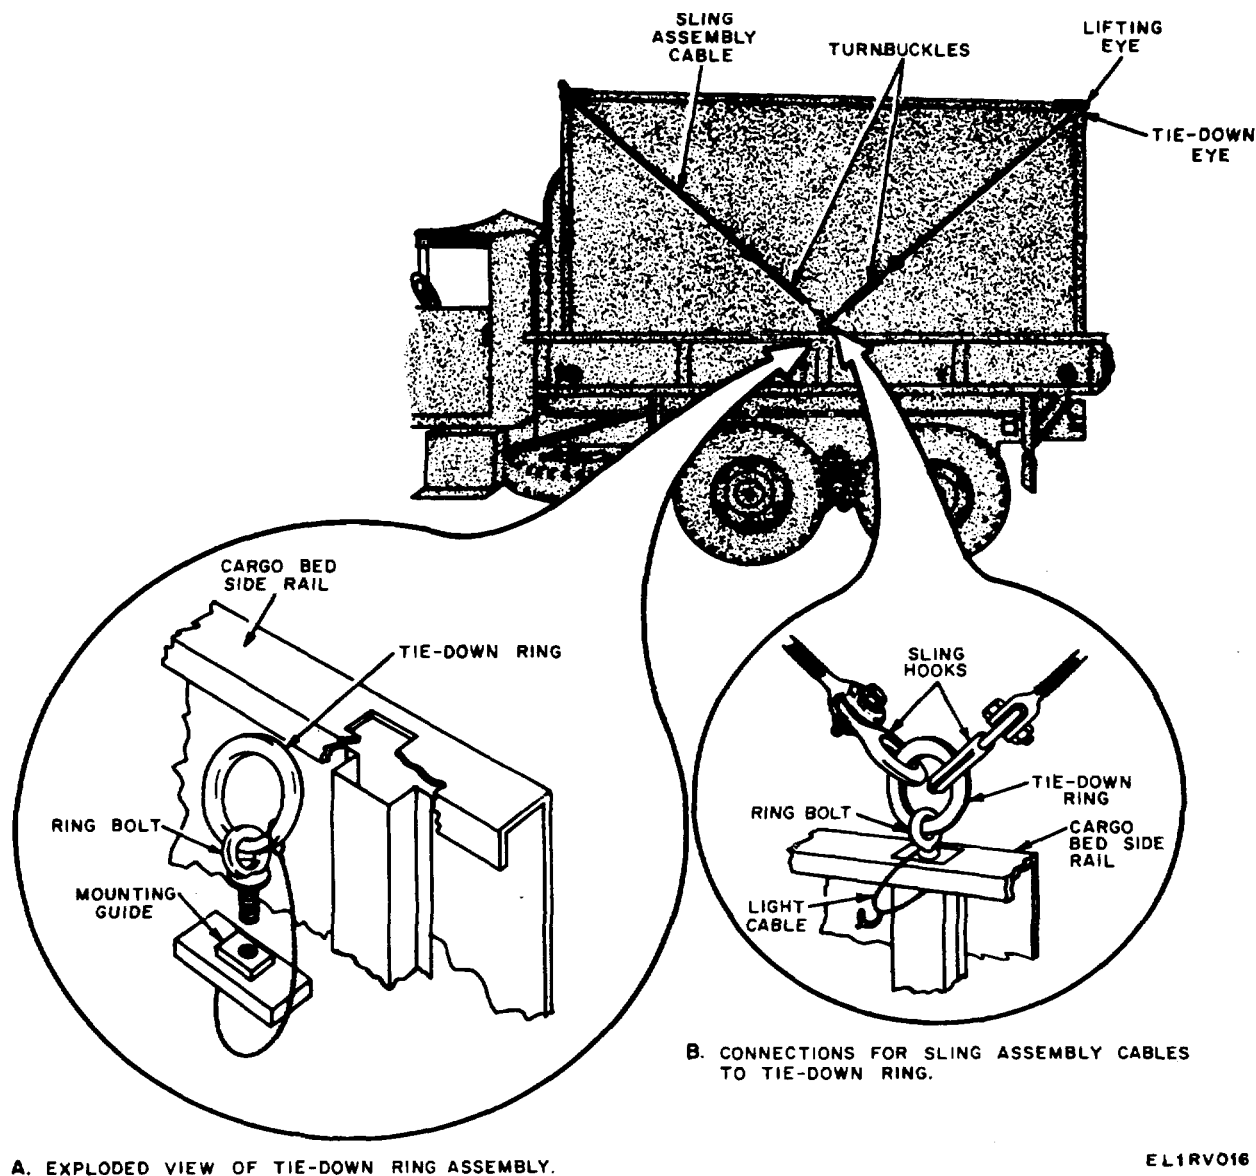

Figure 2-2. Equipment shelter secured in place on truck.
b. If the equipment shelter is to be loaded on a truck, use the sling and tiedown assembly to secure the equipment shelter in position in figure 2-2.